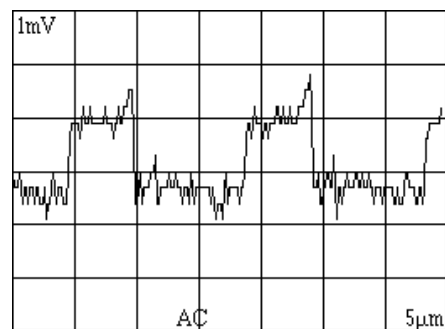

Figure 3-2. Thermal signal of test sample grating
Step 4 When you see a change in value on the panel meter, indicating that the probe is heating up, observe the oscilloscope trace and increase the resistance until the pattern is like the one shown in Figure 3-2. If you step to the maximum value (4.5  $\Omega$ ) and still do not see this pattern, turn the knob all the way back down to 0.
Step 7 Bring the middle knob up slowly until the oscilloscope trace is like the one shown in Figure 3-2. Typically this should happen between 13  $\Omega$  and 15  $\Omega$ . At this point, the panel meter should read about 0.8 V.